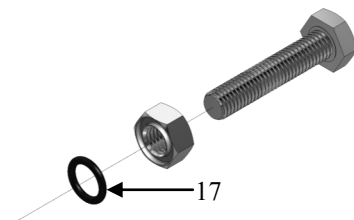

Fig. 8.4
- e. Stop O-rings: will have the smallest O-ring diameter (#17 fig. 8.4).
- c. Flange Bearing (#4 fig. 8.4)